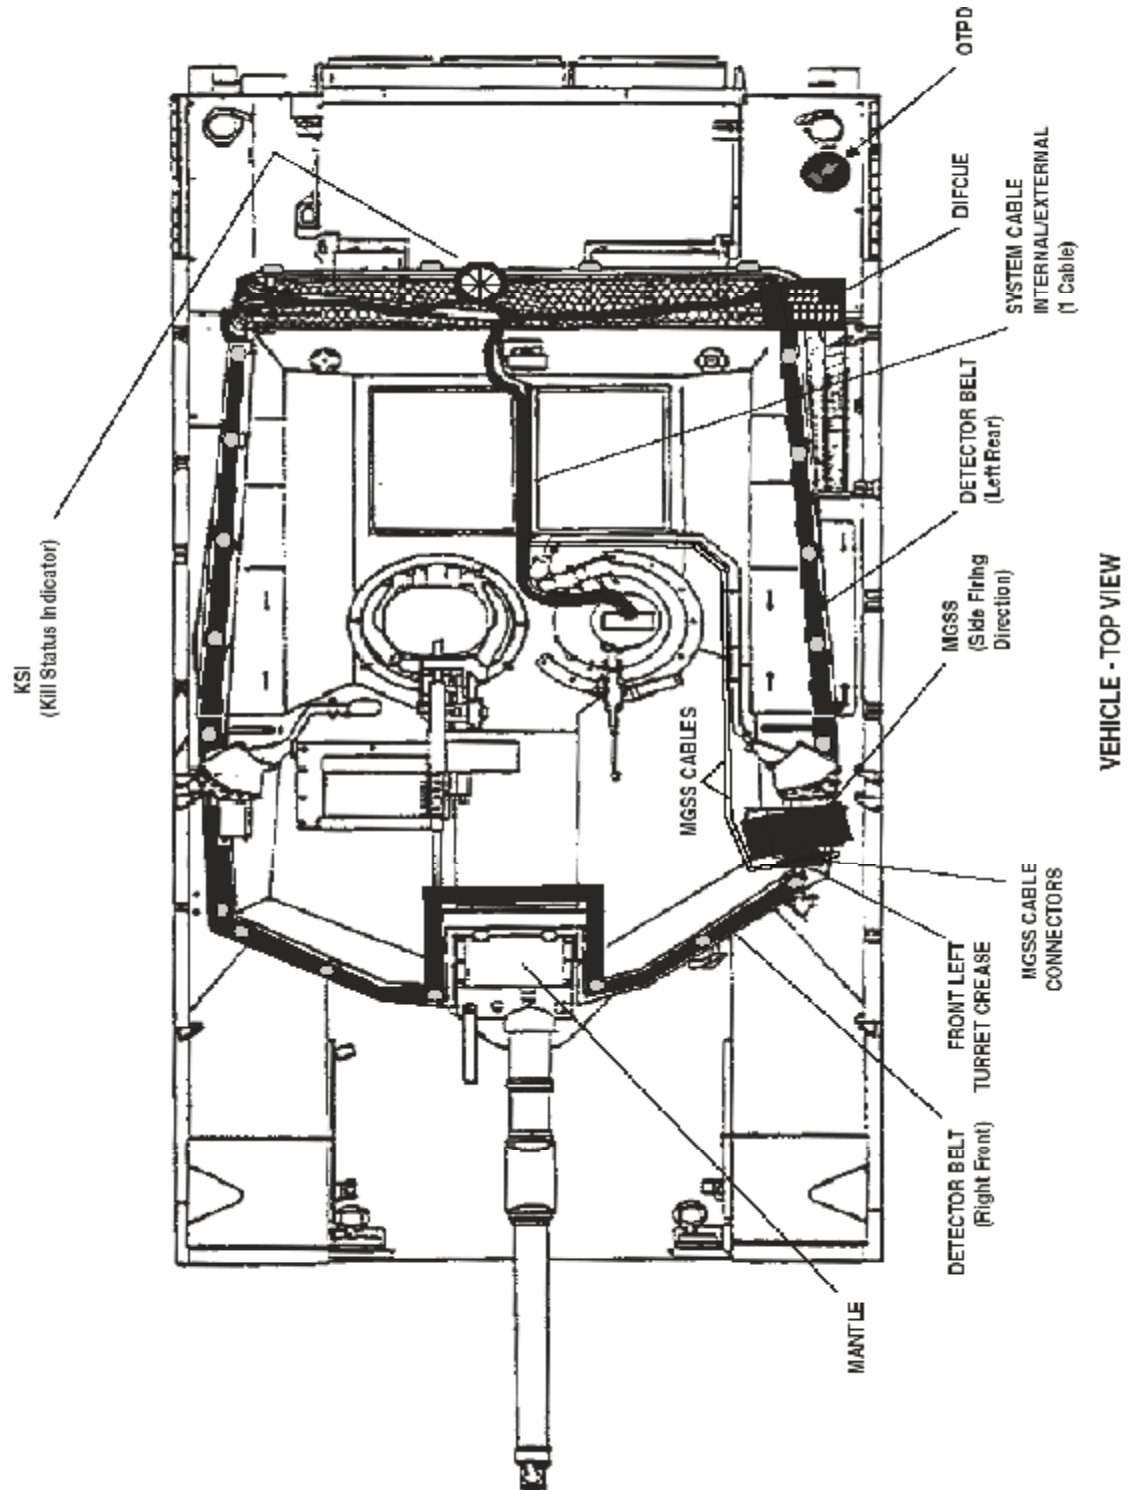

Figure 2-22. M1A1/M1A2 Vehicle Detector Belt Placement (Top View)
- e. For ease of installation, form the collar around the mantle first when attaching the detector belt. Then, working in short sections, press the detector belt labeled **Right/Front** along the fastener tape applied for that belt. Ensure that there are no buckles or creases in the belt. The connector for the System Cable should be positioned at the right rear corner of the turret. (See Figure 2-22.)